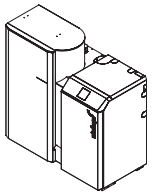

Fig. 35 Remove the fastening straps
- ▶ Remove both fastening straps – Fig. 35.